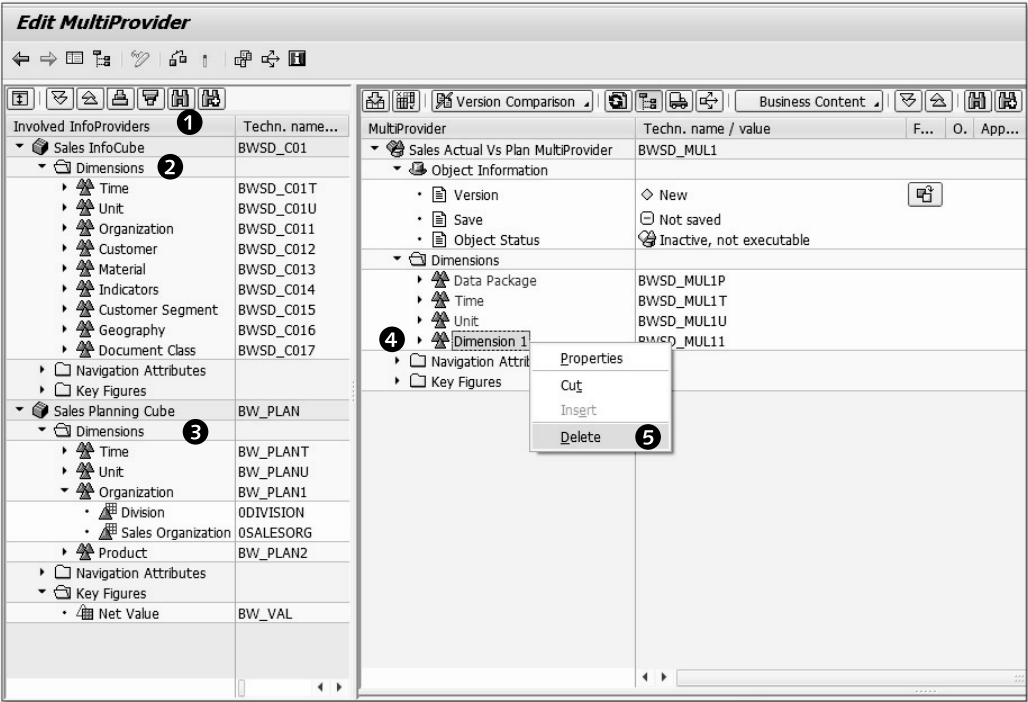

Figure 6.7 Edit MultiProvider: Deleting Dimension 1
The dimensions of InfoCube BWSD_C01 and InfoCube BW_PLAN are shown in ❶, ❷, and ❸ of Figure 6.7. In this figure, characteristics within the ORGANIZATION for SALES PLANNING CUBE dimension are shown in detail. Because a MultiProvider exists as a logical definition and doesn't physically store data, the design of various dimensions isn't as vital as it is during the design of a standard InfoCube. Dimension design while creating a standard InfoCube is a crucial step because standard InfoCubes store data physically.
First, let's delete dimension 1, which is created by default by SAP BW. Select DIMENSION 1, as shown in ❹ of Figure 6.7, and open the context menu. Next, select DELETE ❺.